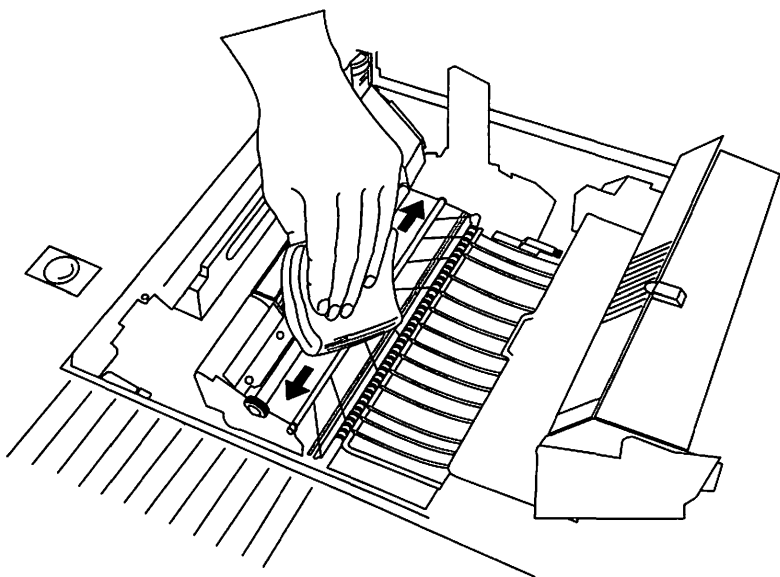

Figure 32 *Cleaning the transfer guide.*
12. Clean the transfer guide with a damp cloth, as shown in Figure 32.